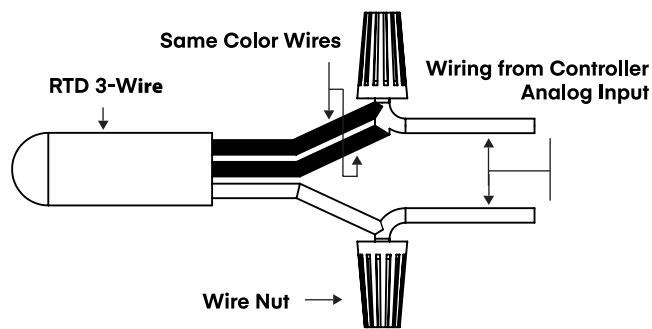

Figure 8: Temperature wiring - 3-wire RTD wiring
ACI recommends 16 AWG to 26 AWG twisted pair wires or shielded cables for all sensors. Signal wiring must be run separate from low and high voltage wires (24 Vac / 120 Vac / 230 Vac). All ACI temperature sensors are non-position sensitive. All freezer sensors are supplied with (3) flying lead wires – see **Figure 8**.